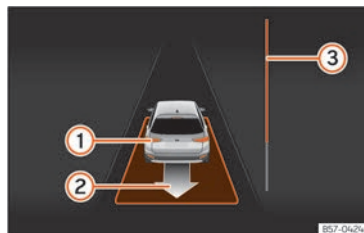

Fig. 130 On the instrument panel display: driving off from perpendicular parking.
- Reverse until the continuous ParkPilot signal sounds; **OR:** reverse until the instrument panel display shows the forward indication. The progress bar >>> **Fig. 130** ③ indicates the distance to cover.